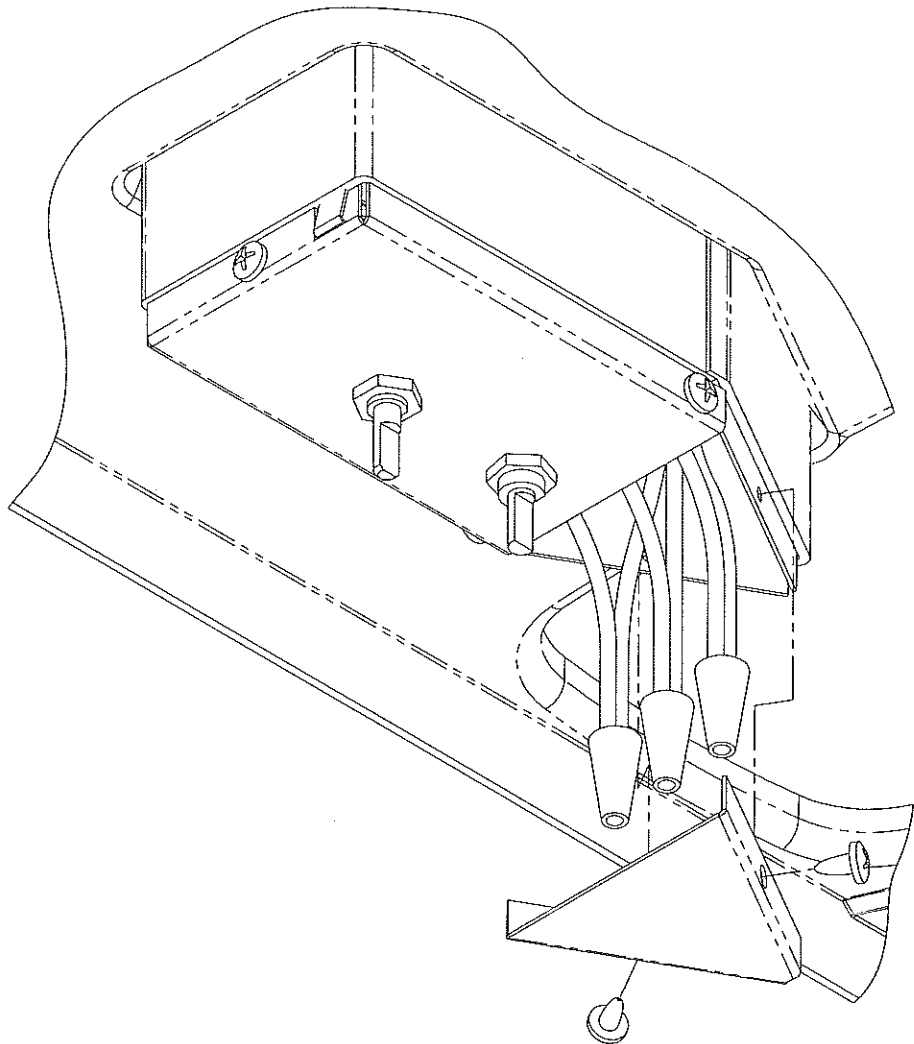

FIGURE 8
- D. Connect the supply power black conductor to the black pigtail wire, the white conductor to the white pigtail wire and the supply ground conductor to the green pigtail wire found in the wiring box using the 3 provided wire nuts. Using a U.L. approved electrical tape, secure the wire nuts to wires in a workmanlike manner (See Figure 8).
- E. Press supply conductors and wire nuts into wiring box and making sure no wires are pinched, secure the wire box cover with 2 provided screws (See Figure 8).